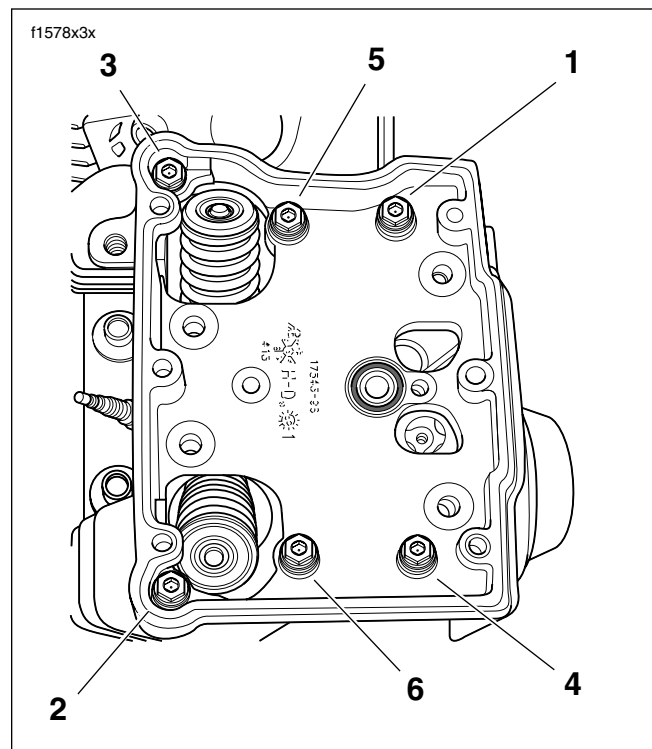

Figure 3-5. Rocker Housing Torque Sequence
8. See Figure 3-5. Snug bolts in torque sequence to hold housing in position. Do not torque.
11. Tighten rocker housing bolts to 120-168 **in-lbs** (13.6-19.0 Nm) in the pattern shown in Figure 3-5.